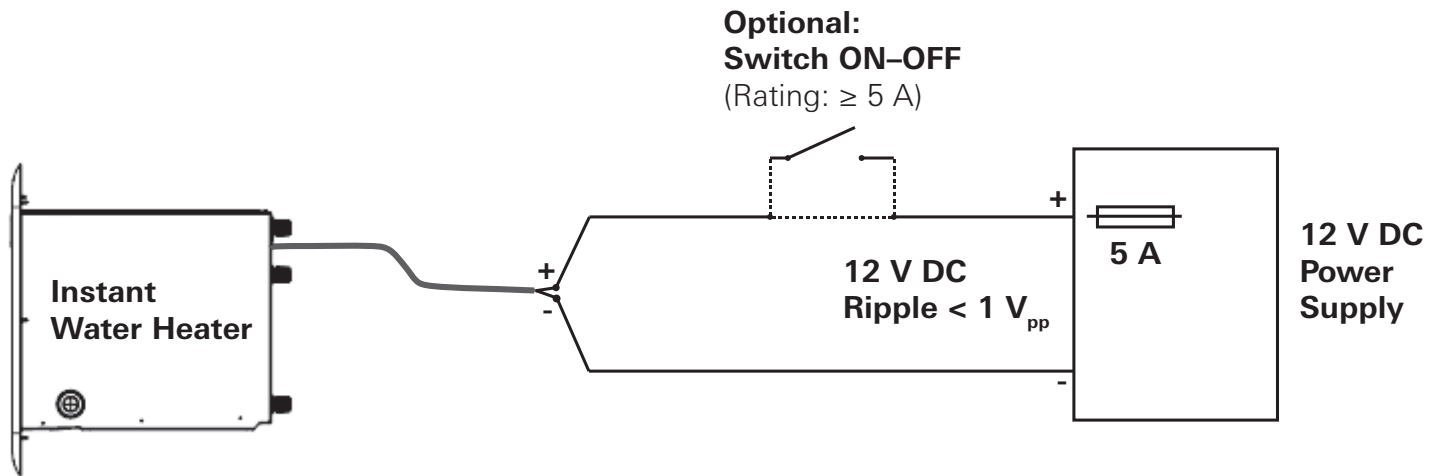

Fig. 14
10. Connect the hose for cold water (1) at the bottom of the Truma AquaGo™ instant water heater.
11. Connect the hose for hot water (2) at the top of the Truma AquaGo™ instant water heater.
12. Model AquaGo™ comfort plus only: Connect the hose for the circulation line (3).
14. Connect the electrical lines with the proper polarity to the 12 V DC power supply (refer to "Electrical connection" on page refer to "Electrical connection for all models" on page 20). Install a 5 A fuse (see Fig. 14).